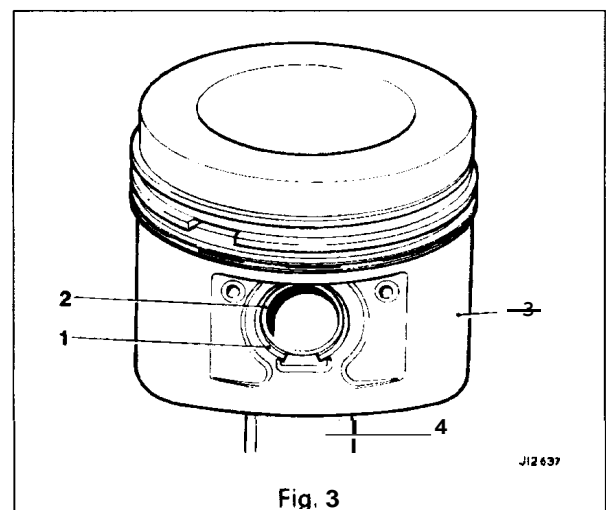

Fig. 3
- Remove the piston pin snap-rings (1 Fig. 3) from each piston, remove the piston pin (2 Fig. 3) and separate the piston (3 Fig. 3) from the connecting rod (4 Fig. 3).
- Lubricate and compress the rings using Service Tool 18G 55A (Fig. 3).